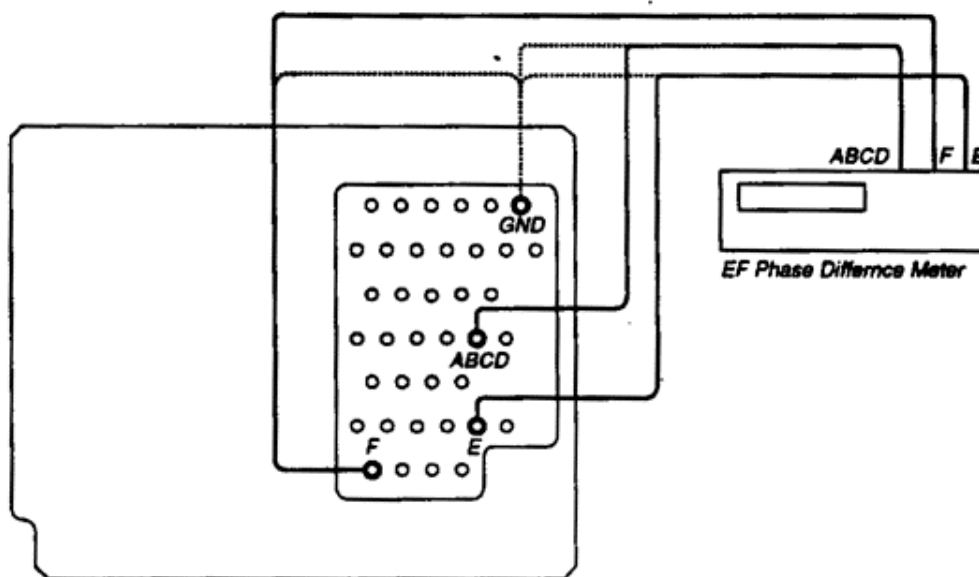

Fig. 5-2-5 EF Phase Difference Check
- Connect the BNC cables (applicable cable) of EF Phase difference Meter to E (AP1015), F (AP1022), ABCD (AP5030) on the Pin Board. (Refer to Fig. 5-2-5)